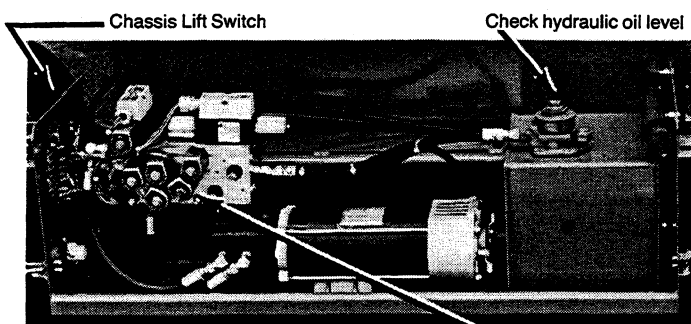

Figure 1. Power Module
3. Check hydraulic oil level with platform fully lowered. Unscrew LARGE hex portion of cap. Oil should be visible in filter (Figure 1). Use Mobile DTE 25 or equivalent.
14. Push chassis lift switch to "UP" position and fully elevate platform (Figure 1).
17. Lower platform part way by pushing chassis lift switch to "DOWN" (Figure 1).
20. Close emergency lowering valve (Figure 1).
2. Open valve by turning knob counterclockwise (Figure 1).